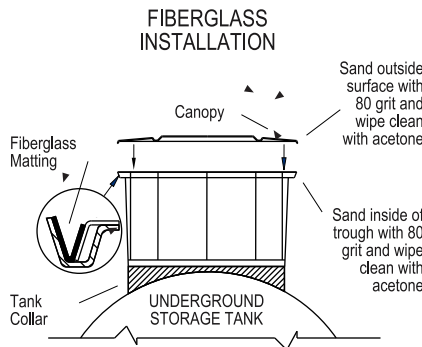

FIGURE 7
B. To install the canopy using a fiberglass bonding kit, apply three (3) layers of fiberglass mat (1 layer at the time) per the labeled instructions (Figure 7). Wait until fiberglass hardens, then sand with 80 grit sandpaper and wipe clean with acetone. Mix and apply a generous coat of gelcoat per the labeled instructions to seal any pinholes. Wait until gelcoat hardens. Proceed to Step 8.